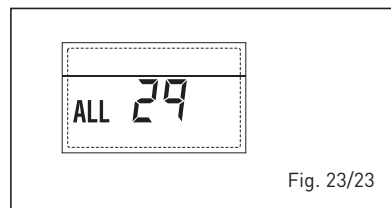

Fig. 23/23
– **HEATING RETURN SENSOR ERROR “ALL 30” (fig. 23/u)**